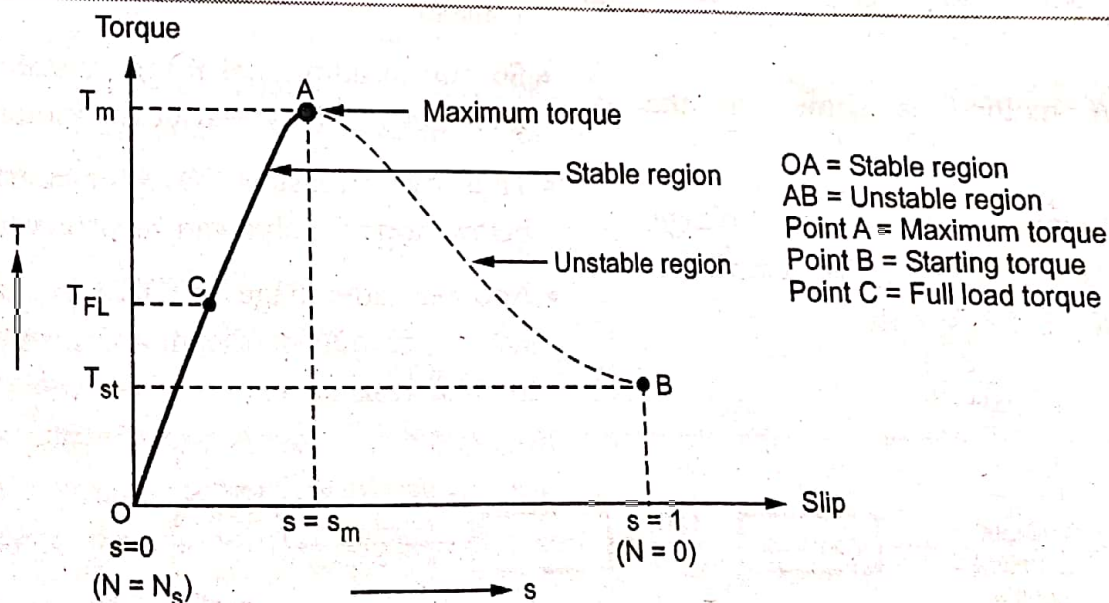

Fig. Q.66.1 Torque-slip characteristics
- The entire torque-slip characteristics is shown in the Fig. Q.66.1.